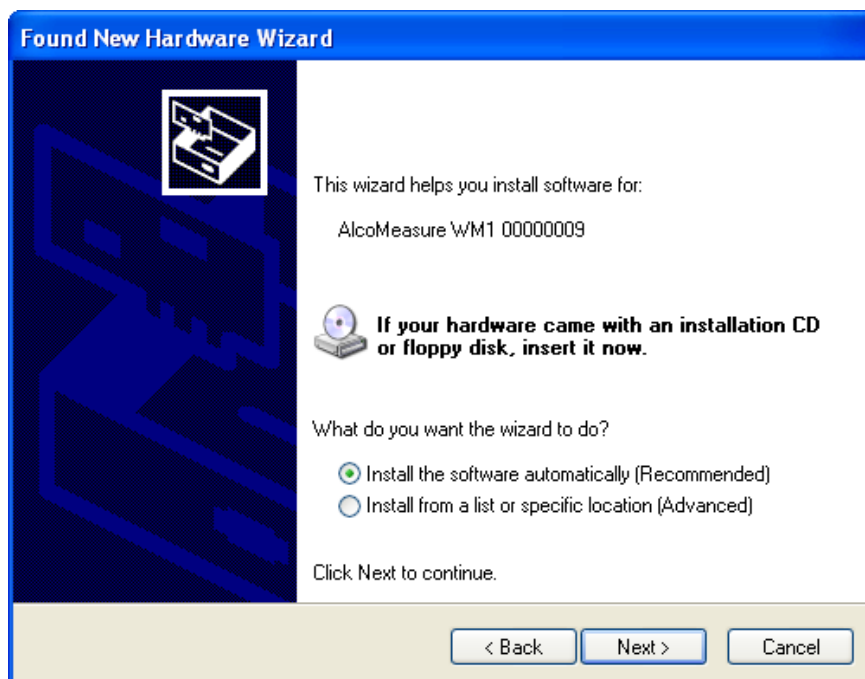

Figure 10 - Windows XP Found New Hardware Wizard
2. The wizard should identify the AlcoMeasure WM1 (serial No) as shown in Figure 10. Make sure “Install the software automatically (Recommended)” is selected and press “Next”.